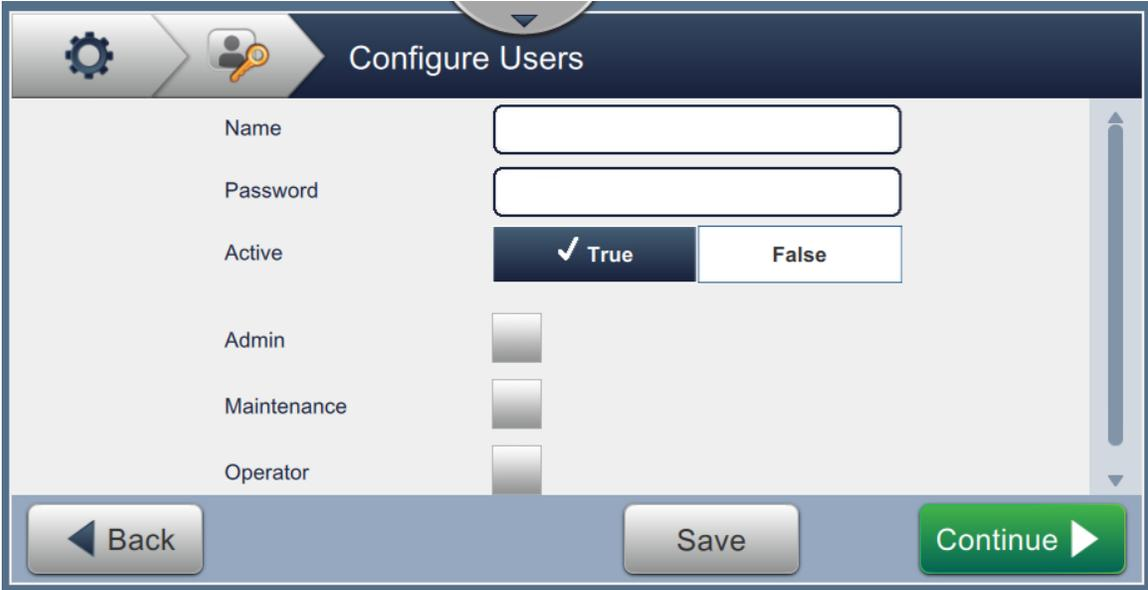

Figure 4-35: User Access Mode Settings
2. Touch the  button to create a new role, the Settings screen for configure roles opens as shown in the Figure 4-35.
13. Touch the  button as shown in Figure 4-35 on page 4-40 to save the settings and activate user access mode to the printer.